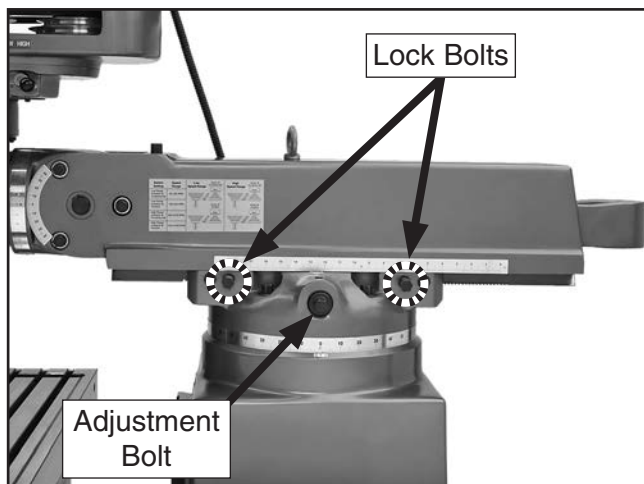

Figure 24. Ram forward/backward movement controls.
2. Loosen the two lock bolts shown in **Figure 24**.